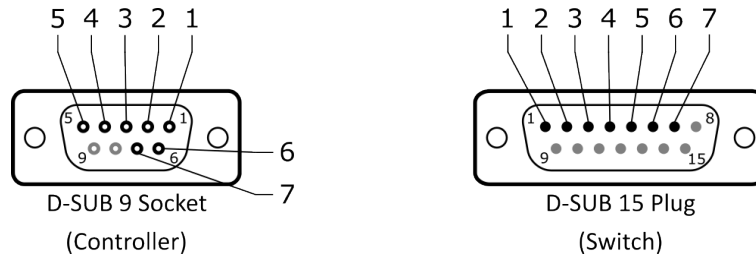

Figure 2: Output connections
- Connect output pins 1-7 of the controller D-SUB-9 socket to matching input pins 1-7 of the Cryogenic Switch D-SUB-15 plug as shown in Figure 2.